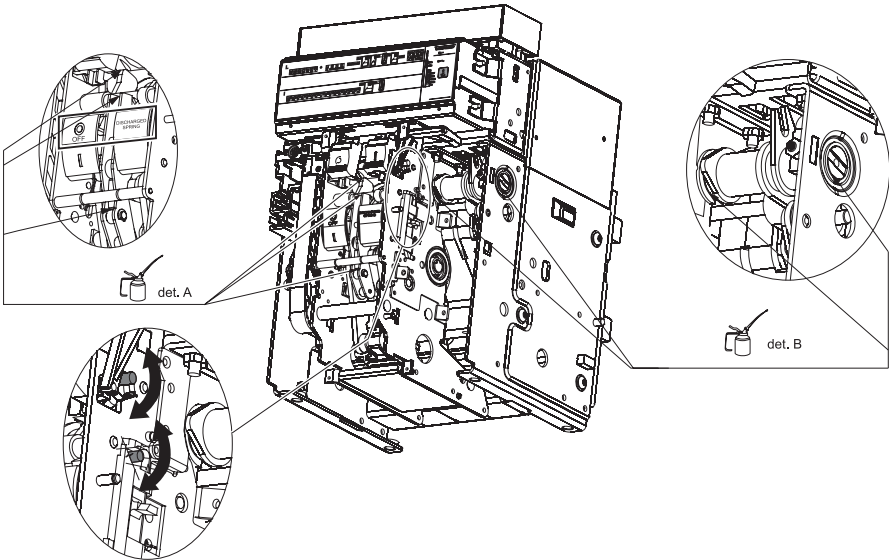

Figure 43.
- Cleaning (for excessive deposits, a laminated dilutant such as Henkel 273471 or the equivalent can be used) and lubricate, at the points indicated in Figure 43, part A, as for First Level, the opening and closing shafts and hooks with MOBILGREASE 28 (EXXON MOBIL).
- Cleaning (for excessive deposits, a laminated dilutant such as Henkel 273471 or the equivalent can be used) and lubricate with MOBILGREASE 28 (EXXON MOBIL) the supports of the operating shaft, including those on the sides of the switch (see Figure 43 part B).